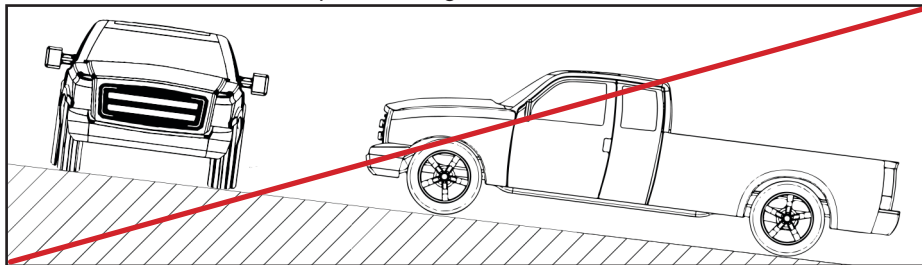

Figure 17 — Do not exceed 20° grade
- Ensure the vehicle is not parked on grades exceeding 20° as this will affect lubrication and air/oil separation (Figure 17).